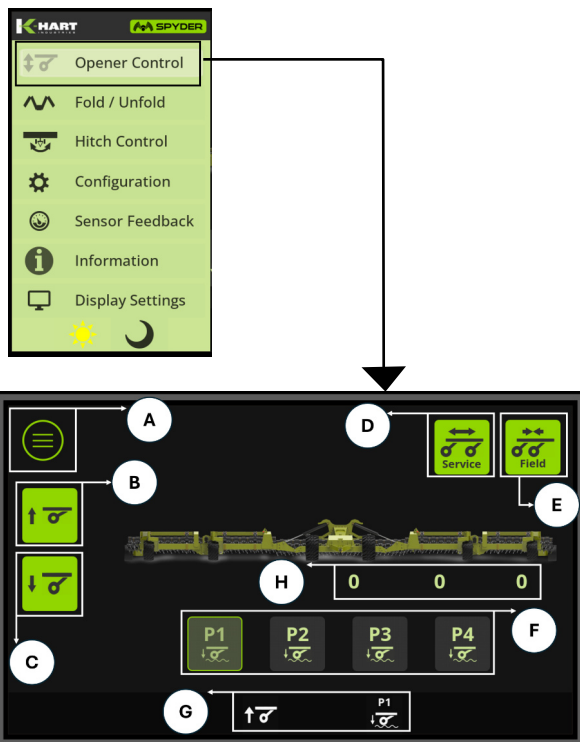

Figure 3.26 Opener Control Display
2. Navigate to the Opener Control page (Figure 3.26).
3. Put the mode of operation to Field (E).
4. Press Lower openers button (C) to Lower Openers to full down position (Figure 3.26) or N on the Keypad.
3. Press B to Lift Openers to full up position (Fig 3.26) or M on the keypad.
4. For cancellation you can press B (Figure 3.26) again to cancel lifting operation at any time.
3. Press Lift openers (B) to the full up position
4. Select Service button (D).
4. Navigate to the Opener Control page (Figure 3.26).